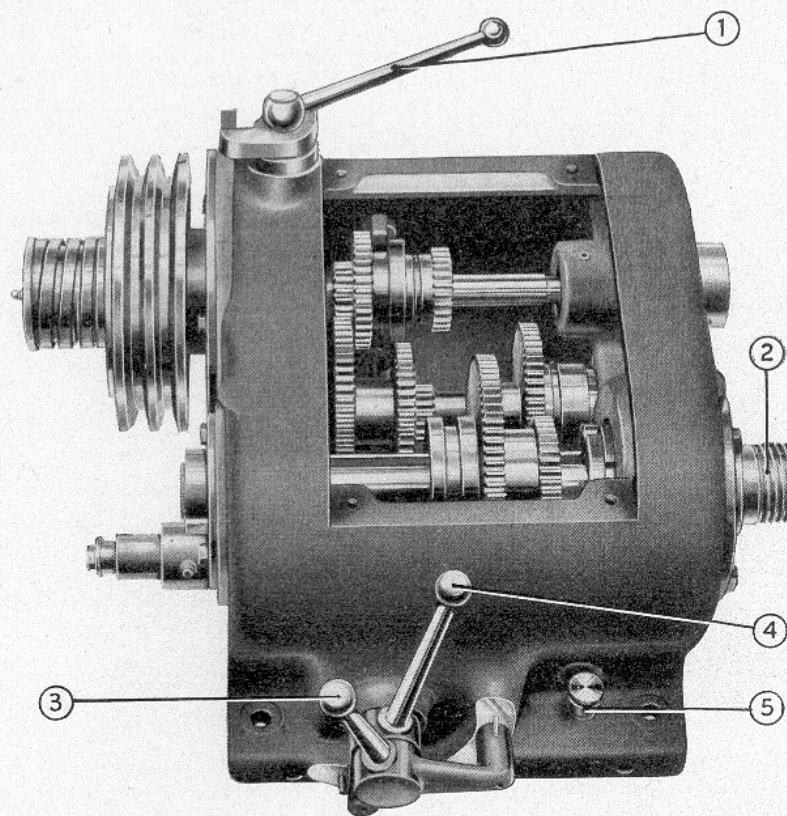

Fig. 2.
Headstock. Remove the cover and fill with oil until the level reaches halfway up the elbow (see Fig. 2, item 5) on the front of the
After the motor has been started, the starting and stopping lever (Fig. 2, item 1) at the top of the head casting should be moved towards the operator to set the spindle in motion. This lever operates the friction cone mechanism.
Headstock. (Fig. 2) Six spindle speeds are obtained by operating the two gear levers at the front of the head casting. The large lever (item 4) has three positions, namely: A; Neutral; and B. The small lever (3) has three positions: 1, 2, 3. The spindle speeds provided are: